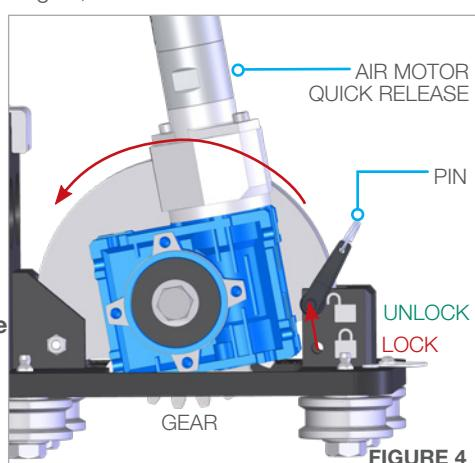

FIGURE 4
**SCAFFOLD QUICK CLAMPS (LWP 554)** are for use with scaffolding in situations where they may be no way to clamp directly onto the heat exchanger. (Figure 4)
Replace the **Quick Release Pin** into the *locked* position. (**Figures 4 & 5**)